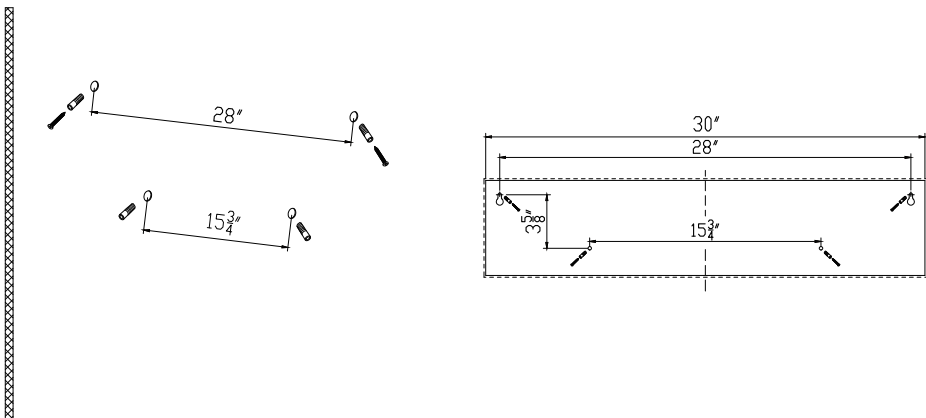

Fig.1
1. Drill two 0.31inch holes in position for plastic wall anchor placement. (Fig.1).
2. Tap plastic wall anchors securely into each of the drilled holes. (Fig.1).
3. After wall anchors have been tapped in place, insert ST4x1.38inch wood screws to the top two wall anchors and tighten two screws. (Fig.1)